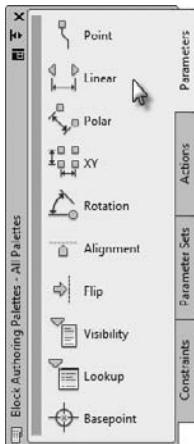

FIGURE 9.42 The Linear parameter in the Block Authoring palettes
1. Make sure Parameters is the active palette in the Block Authoring Palettes panel, and then click the Linear Parameter icon (see Figure 9.42).